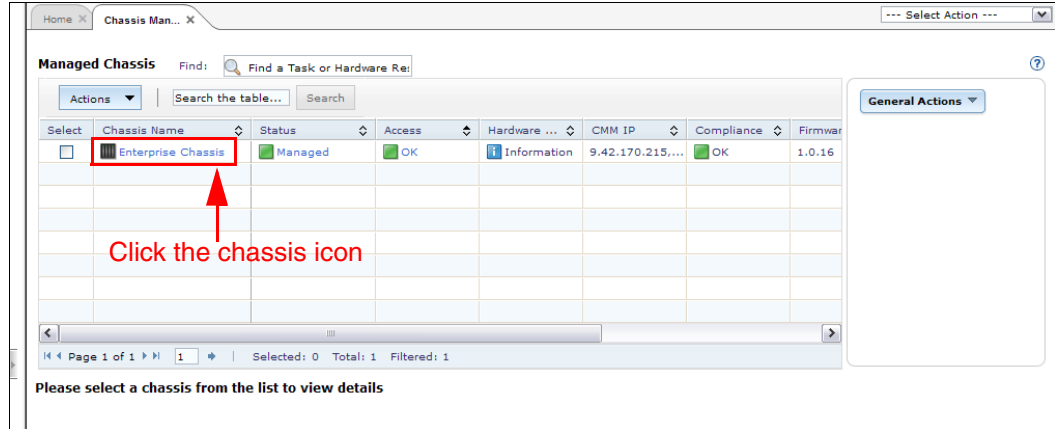

Figure 13-8 Select a managed chassis from the Chassis Map view
2. From the Chassis Manager page, click the chassis that contains IBM Flex System V7000 Storage Node. Figure 13-8 shows that a chassis is selected and a Map view opens.